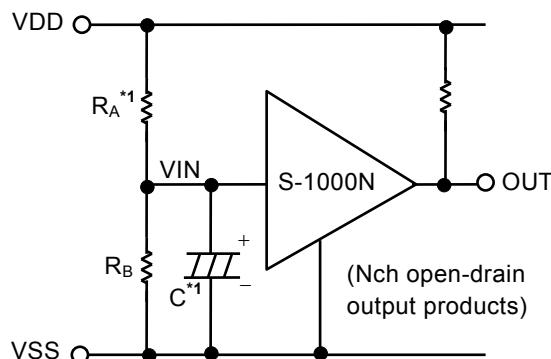

Figure 28
**Remark** When the power rises sharply as shown in the Figure 28 left, the output may go to the high level for an instant in the undefined region where the output voltage is undefined since the power voltage is less than the minimum operation voltage.